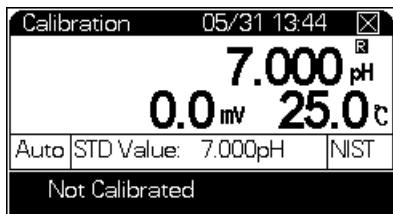

Figure 21 Calibrating the pH electrode
- 5 Press [**Calibrate**]. See Figure 21. The upper area shows the current pH (in this example the slope is set to 100.00%), potential and temperature value. The bottom area shows the current calibration result.